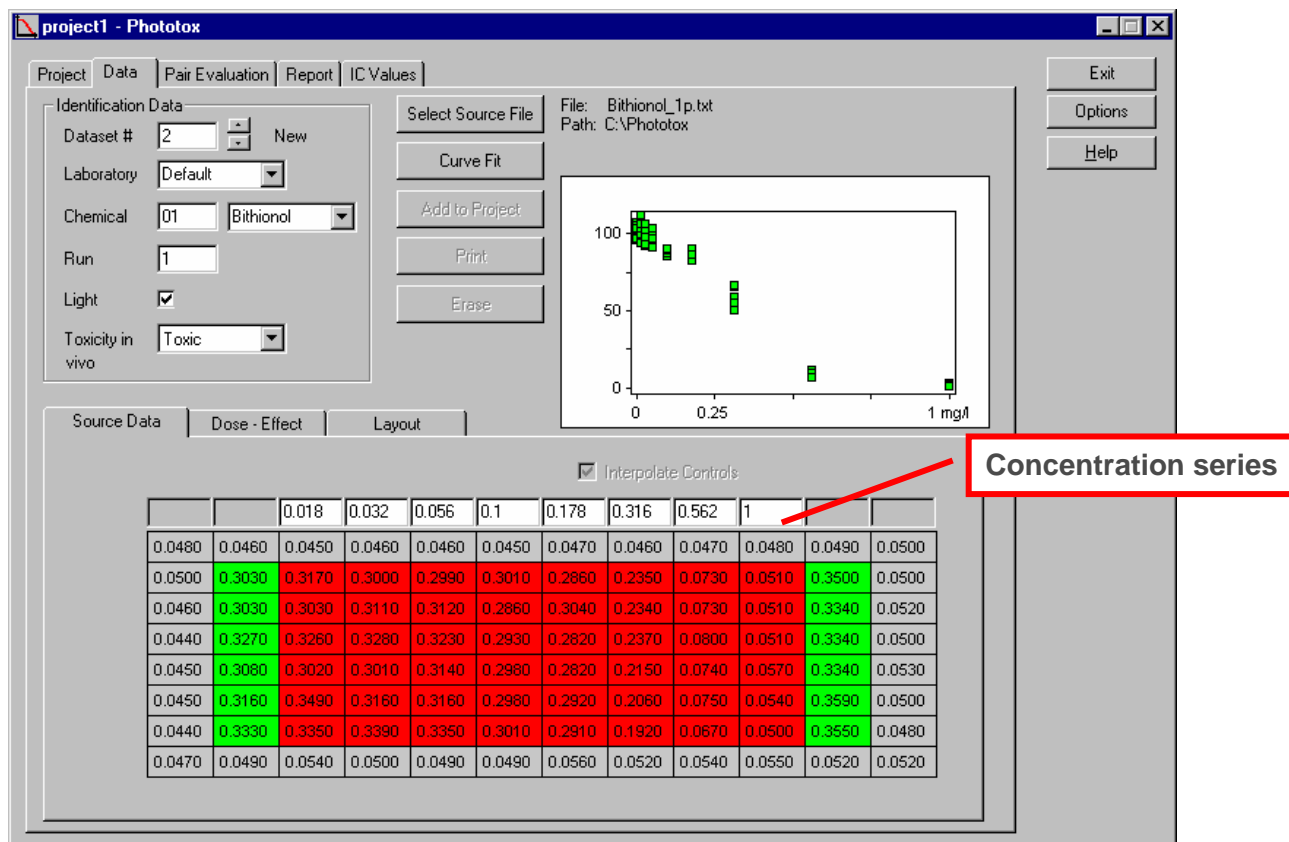

Figure 3: Selecting a Source File and manual entries
- For “**Light**” tick check box. if the actual experiment is +UVA-vis irradiation. (Figure 3 shows the raw data of Bithionol, +UV)